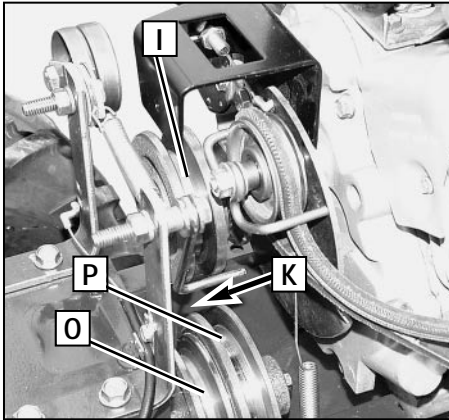

Figure 5-18: Arrow (K) shows insertion point for installing new forward clutch belt.
3. From the front of tiller, insert the forward clutch belt in between the bottom of the engine drive pulley (I, Figure 5-18) and the top of transmission pulley (K).